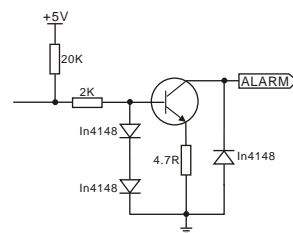
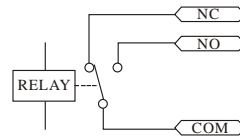

Figure 1
Figure 2
- 1.Alarm outputinterface (See Figure 1) 2.Electriclock interface (See Figure 2)